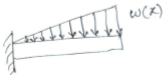

Figure 6
- b) Beam shown in Figure 6 is under ramp loading with $w(x) = 5000x \text{ N/m}$. Using work equivalence theorem, convert this distributed loading to the concentrated loads at the end points. (10)